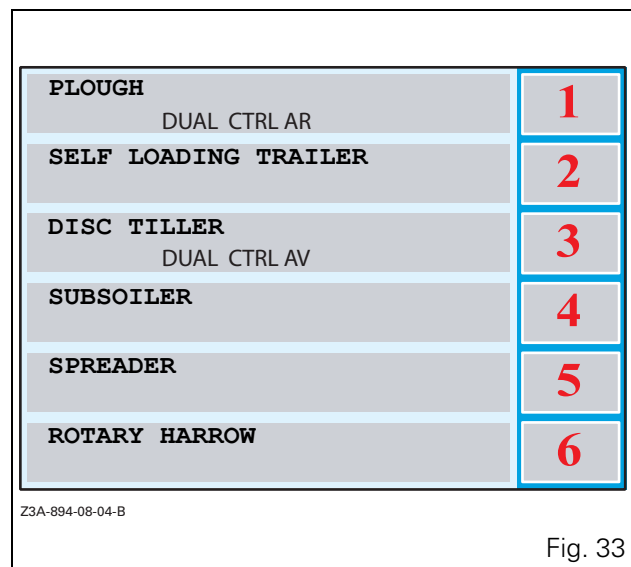
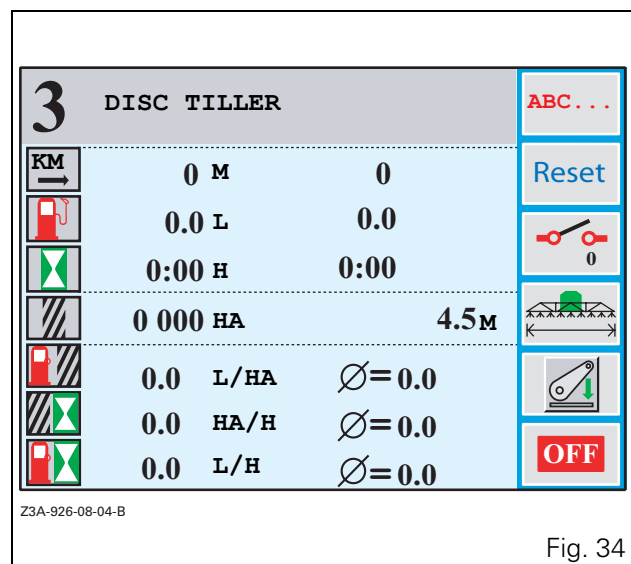

Fig. 33
Fig. 34
- When the window (Fig. 33) is open, select a memory by pressing the corresponding key. Example: the DISC TILLER memory by pressing the key <<3>. This implement window (Fig. 34) is displayed.